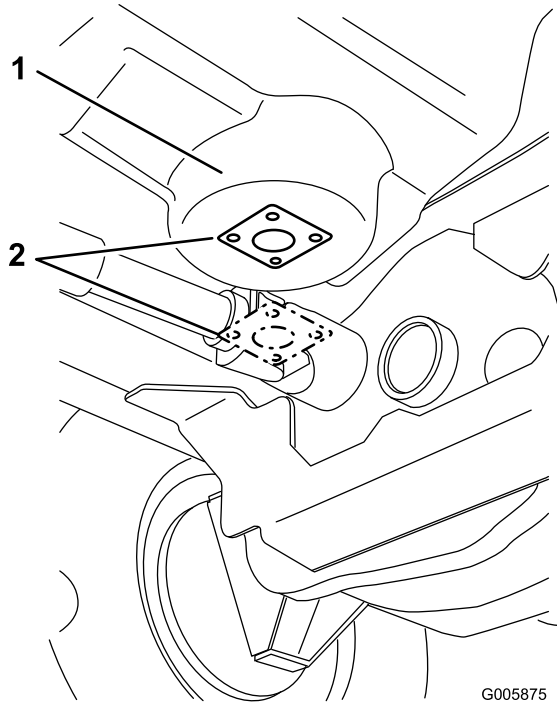

Figure 47
5. Locate the metal template in loose parts. Line up the large hole in the template over the hole in the tank (Figure 47).
6. Mark the four smaller holes and drill four 6.4 mm (1/4 inch) diameter holes at the marked spot (Figure 47).